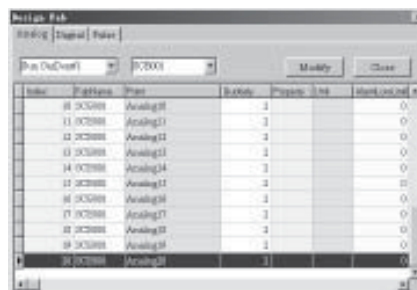

Fig. 4-15 Defining O1,O2,O3,O4,O5
Step 7. Define **Port O1~O5** as **Fan Lamp Door lock, Cooking pot, Air conditioner**, respectively. They are all tele-communicating ports as in Fig. 4-15.